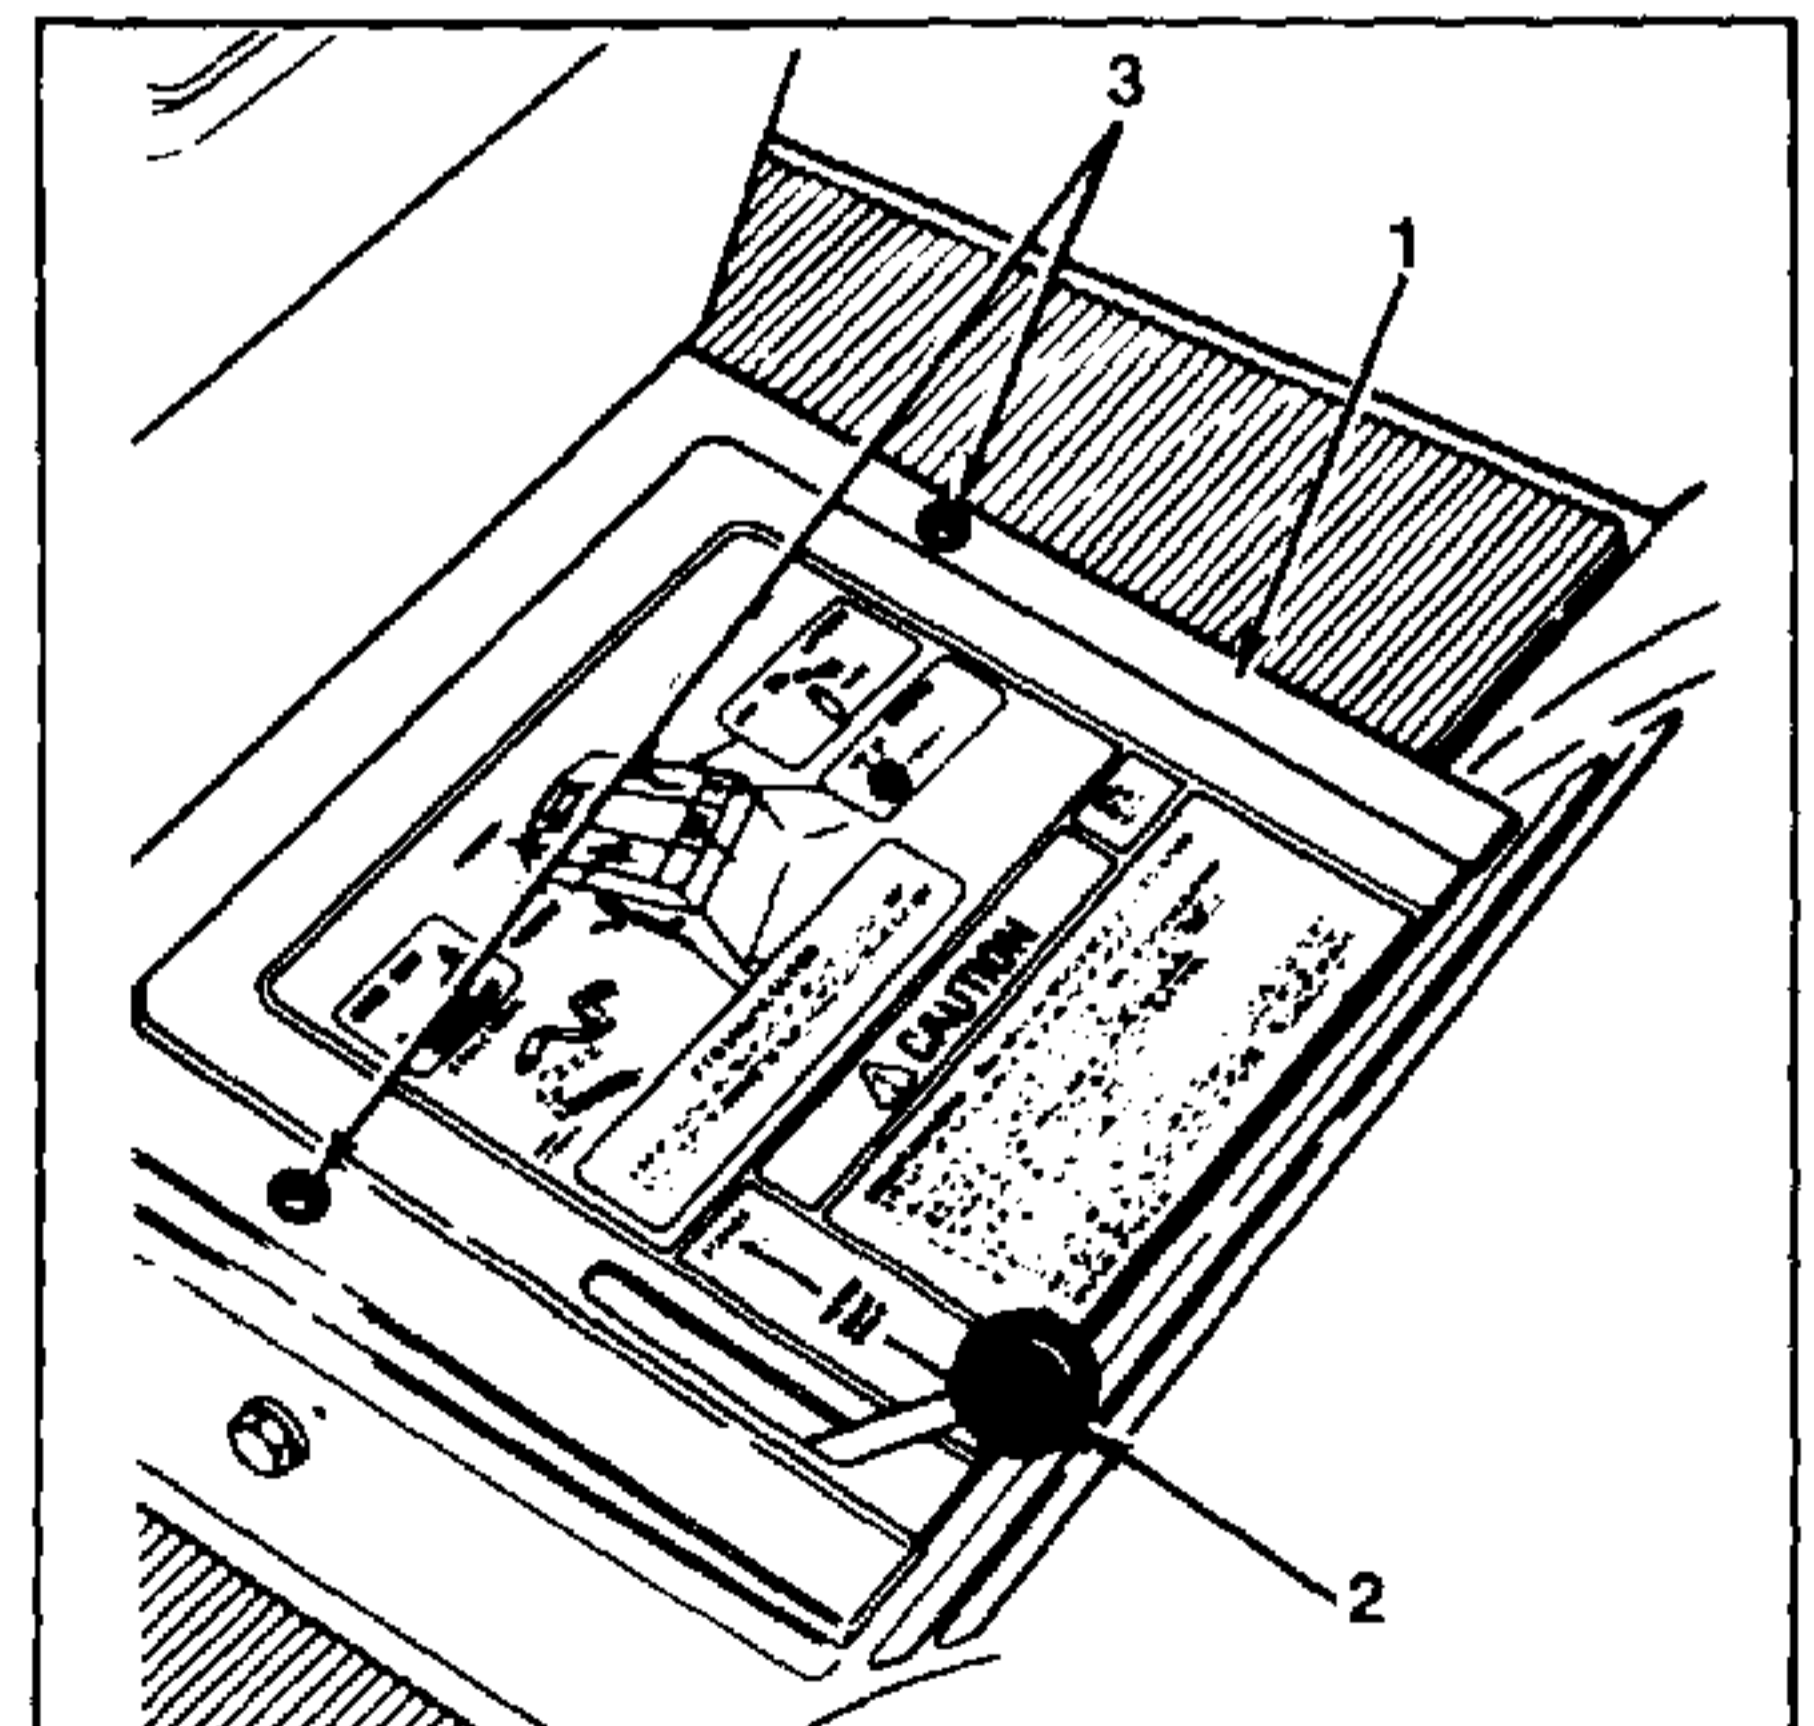

FIGURE 15.
1. Remove the frame cover by removing two screws holding the frame cover to the frame in the step through area. Refer to figure 15.
2. Remove the ball knob from end of dump valve (Model 1320). Refer to figure 15.